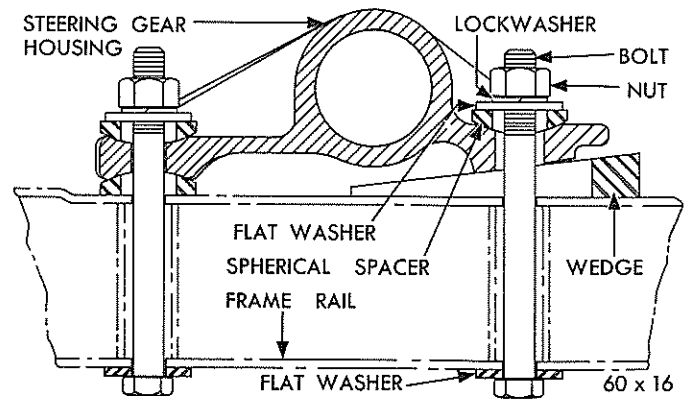

Fig. 18 - Steering Gear Mounting (Cross Section)
- (10) Turn the steering wheel retaining nut to exert pressure on the installing sleeve and upper retainer ring and bearing, this action will press the bearing down onto the knurled section of the steering shaft and against the lower retainer ring and flatten the upper retainer ring so it can enter the groove in the steering shaft. Be sure the retainer ring is firmly seated in the steering shaft groove. This retainer ring places the upper column tube in the proper relation with the worm shaft coupling pin. Remove the steering wheel nut, washer and sleeve tool.
- (11) Install the steering wheel and steering wheel nut, tighten the nut to 24 foot-pounds torque.
- (12) Install the horn blowing switch, horn ring, the insulators and attaching screws. Connect the horn wire.
- (13) Compress and turn the horn button 1/4 turn clockwise to lock the horn button on the retainer.
- (14) Position the floor plate seal on the floor panel and install the attaching screws.
- (15) Raise the vehicle.
- (16) Tighten the front upper and front lower gear housing to the frame attaching bolts to 50-foot-pounds torque.
- (17) Install a wedge over the rear bolt (Fig. 18) between the housing and the frame so that the tapered surfaces match; tap the wedge lightly but firmly into place and tighten the rear mounting bolt to 50 foot-pounds torque.
- (18) With the steering gear centered in its travel and the steering wheel and front wheels in the straight-ahead position, install the steering gear arm, washer and nut. Tighten nut to 120 foot-pounds torque.
- (19) Install the steering center link, nut and cotter pin.
- (20) Lower the vehicle.
- (21) Carefully enter the left bank intake manifold and carburetor assembly into position.